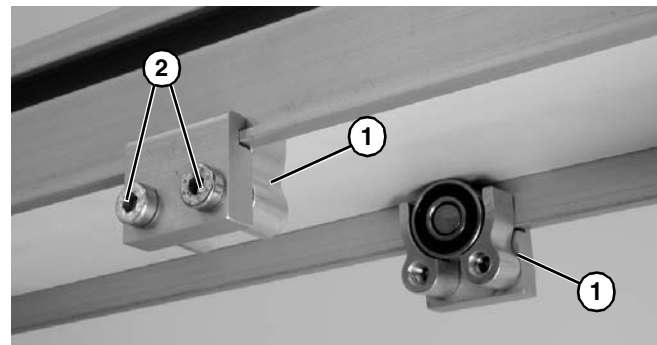

Figure 10
3. Install roller assemblies (**Figure 10, item 1**) as shown. Tighten screws (**Figure 10, item 2**) to 60 in-lb (7 Nm)